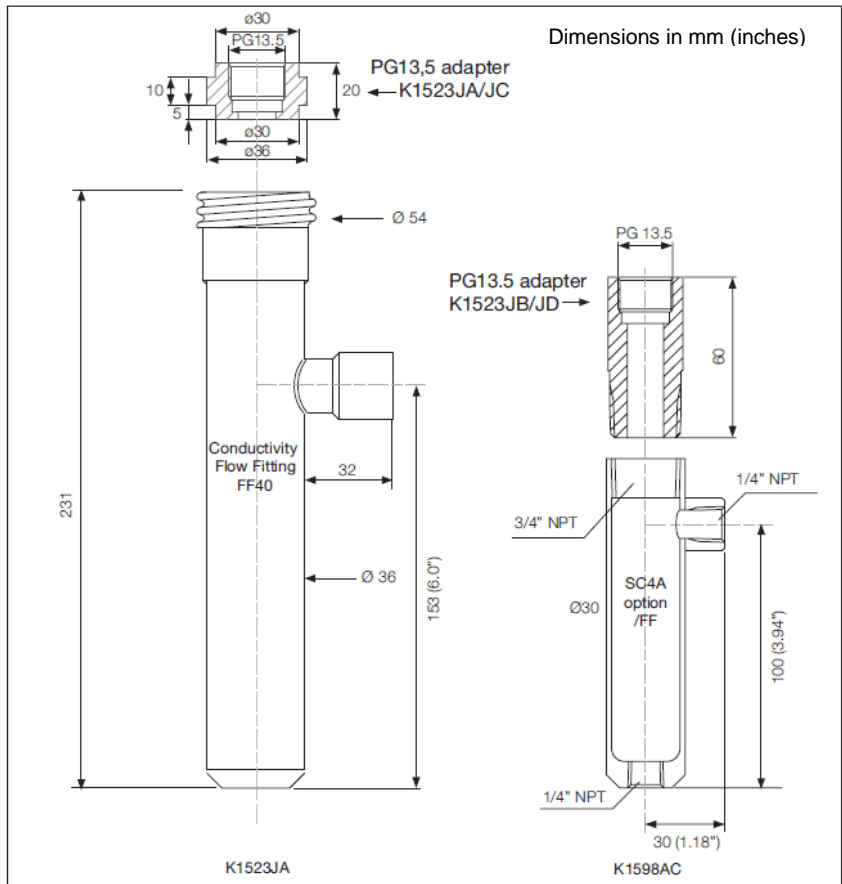

Figure 8: Flow fitting FF40
- FF40 fitting with PG13.5 adapter (K1523JA/ JC) or the small flow fitting (K1598AC) with PG13.5 adapter (K1523JB/JD), (see fig 8).